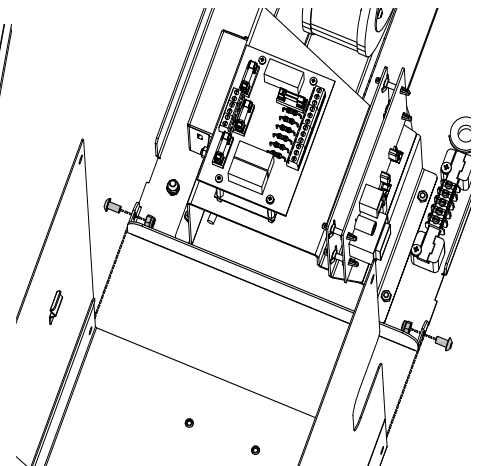

Fig. 27 Taking out the lid of the burner casing.
5. In the front of the burner, unscrew the two bolts that are holding the lid of the casing – one on left side, another one on the right. Disconnect the controller data cable from the control panel in the lid, and remove the lid off the burner (Fig. 27);